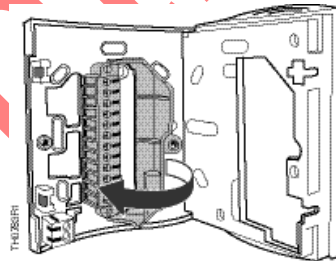

Figure 4. Accessing the Wire Terminal Block.
- To access the wire terminal block, loosen the cover screw and open the plastic cover. See Figure 4.